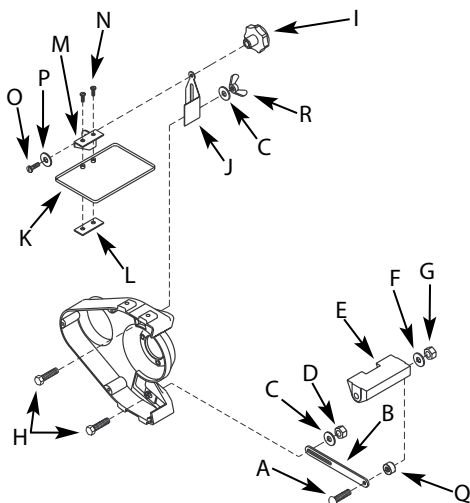

Figure 2 – Left Tool Rest and Eyeshield Assembly (82062, 82071, 82081 and 82101)
Parts to be fastened to the unit should be located and accounted for (See List and Figure 2).
- Slide $\frac{5}{16}$ "-18" carriage bolt (A) into square hole in tool rest bracket (B). Slide spacer (Q) onto carriage bolt (Spacer is not needed for models 82071, 82081 and 82101.). Slide carriage bolt with bracket into hole on inside of tool rest (E) as shown in Figure 2. Slide $\frac{5}{16}$ " flat washer (F) and $\frac{5}{16}$ "-18 hex nut (G) onto carriage bolt. Tighten nut finger tight.